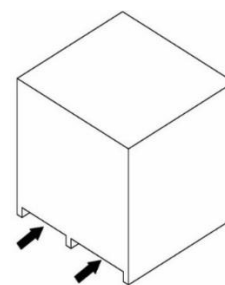

Fig. 2-4
4. Insert the forks at the designated points (see figure 2-4).